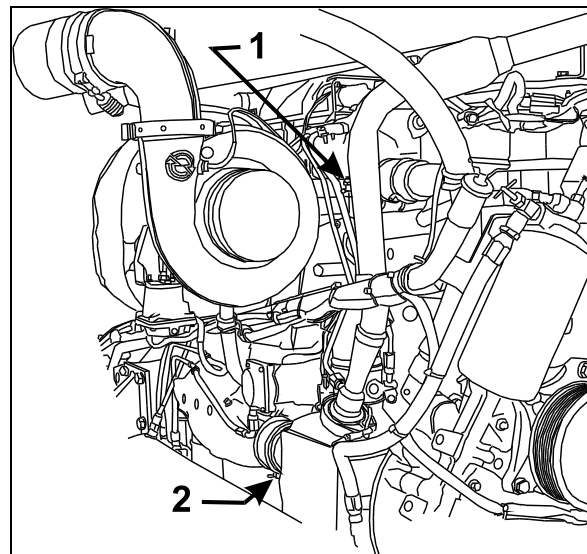

FIGURE 8: ENGINE COOLANT DRAIN COCKS 05088
4. Open drain cock at bottom of thermostat housing to drain the coolant trapped above the thermostats (1, Fig. 8).
5. Open engine drain cock (2, Fig. 8).